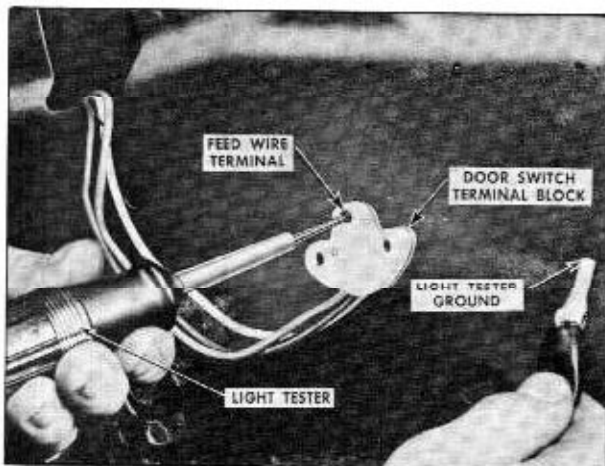

Fig. 17-166 Checking For Current at Window Control Switch
- Connect one light tester lead to feed terminal of switch block and ground other tester lead to body metal. (Fig. 17-166)